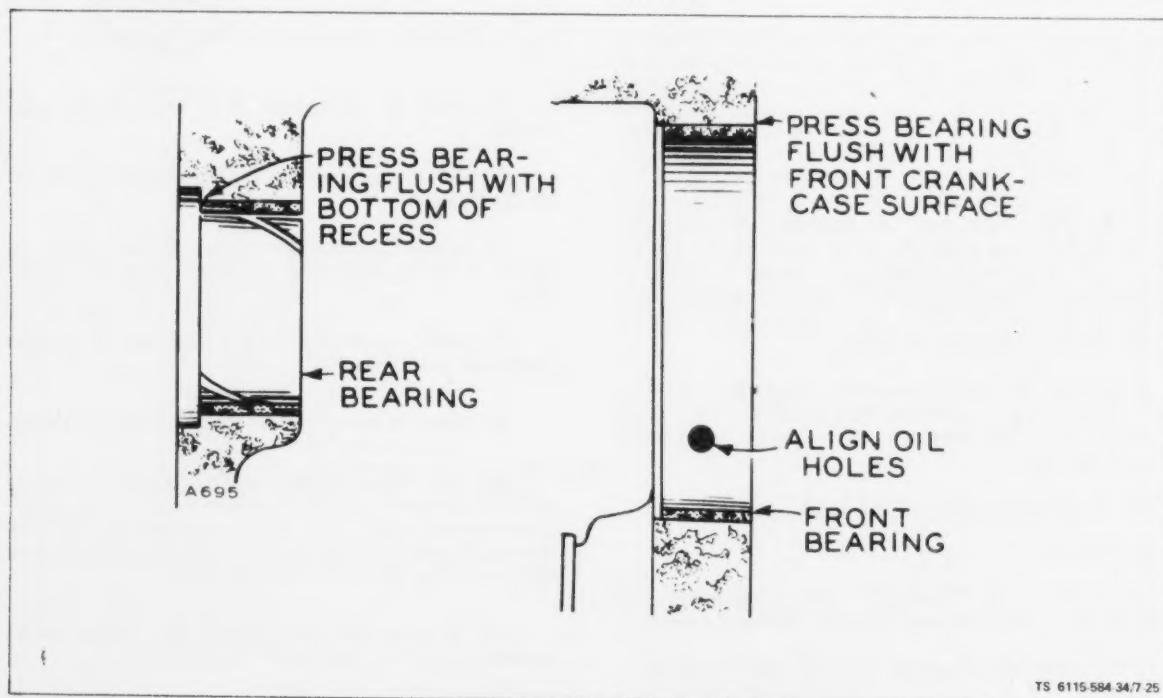

Figure 7-25. Camshaft Bearing Installation
(1) Press new camshaft bearings into place. See figure 7-25 for proper placement. Press rear bearing flush with bottom of expansion plug recess. Press front bearing in flush with crankcase front surface so oil passages are aligned. Do not attempt to rear bearings, they are a precision type. After rear bearing is installed, insert a new expansion plug in recess, using sealing compound, and expand it into place with sharp blows at its center.